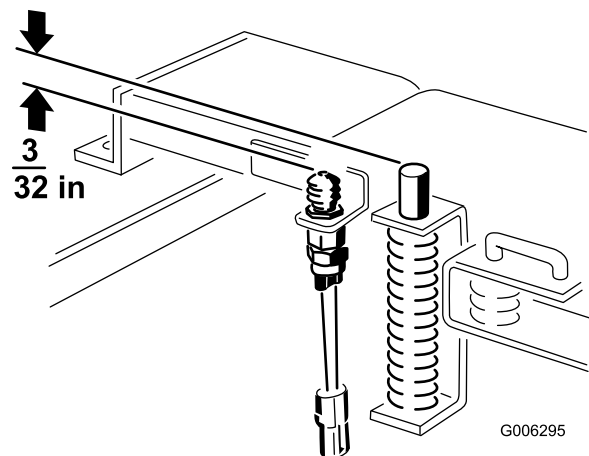

Figure 4
14. Adjust the jam nuts until the top of the switch button is $\frac{3}{32}$ inch lower than the top of the spring pin (Figure 4). Tighten the jam nuts to 75 in-lbs.